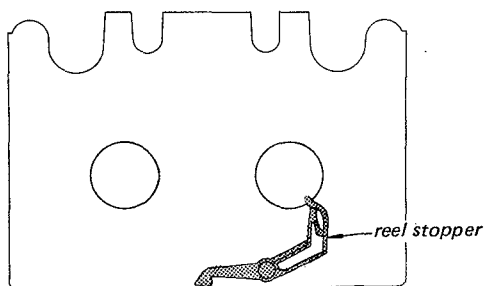

Fig. 1-4.
(5) Recording circuit (Fig. 1-4)